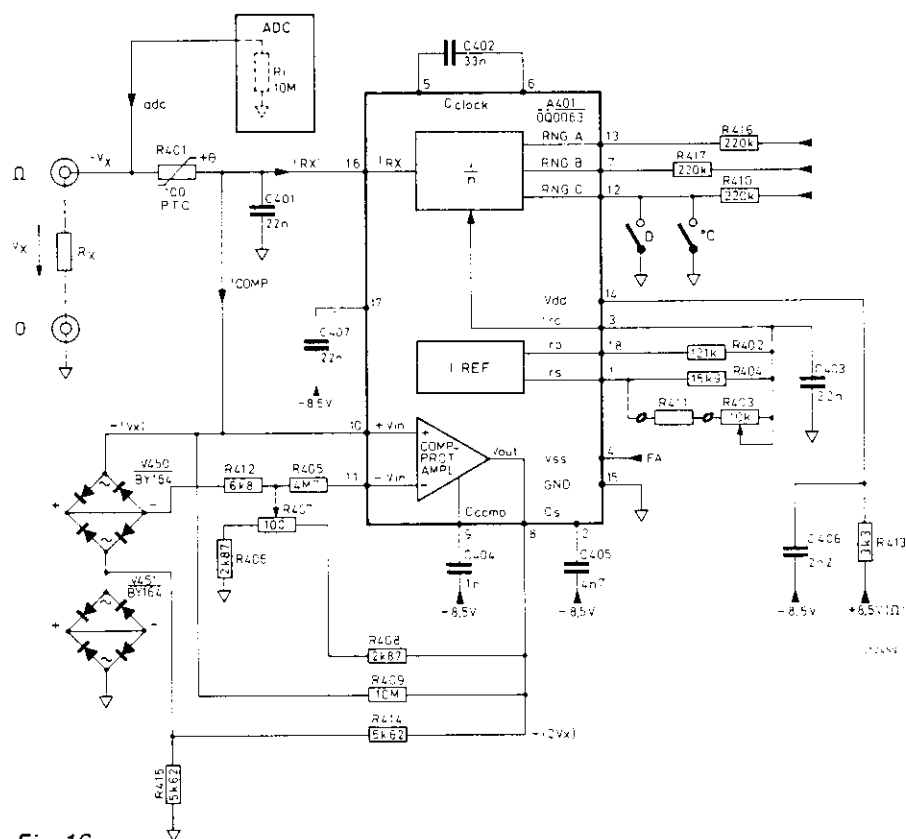

Fig. 16.
- The resistance measuring circuit is drawn in figure 16.